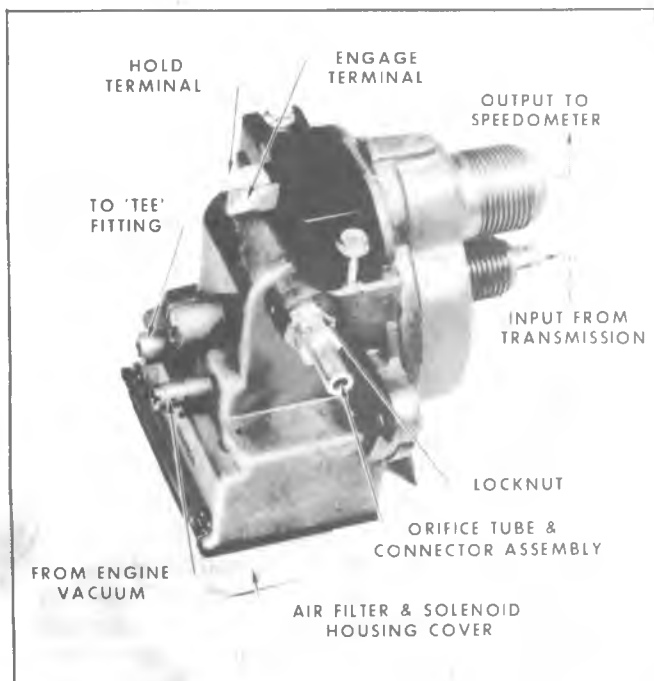

Fig. 9-2C--Transducer
2. The Transducer (fig. 9-2C) is mounted in the speedometer cable line. It is a combination speed sensing device and control unit. When engaged, it senses vehicle speed and positions the Power Unit to maintain the selected speed.
If the vehicle cruises at a speed a few mph above or below the engagement speed, this error can be corrected with a simple adjustment of the orifice tube in the transducer (Fig. 9-2C).